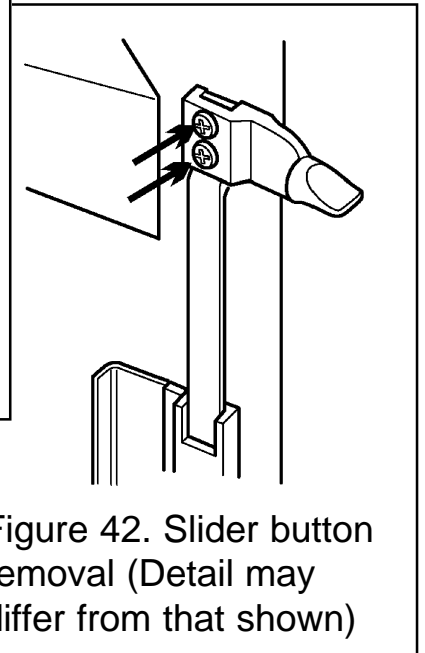

Figure 42. Slider button removal (Detail may differ from that shown)
3. Detach the control slide button from the slider control by removing two screws (See figure 42).
2. Detach the control slide button from the slider control by removing two screws (See figure 42).